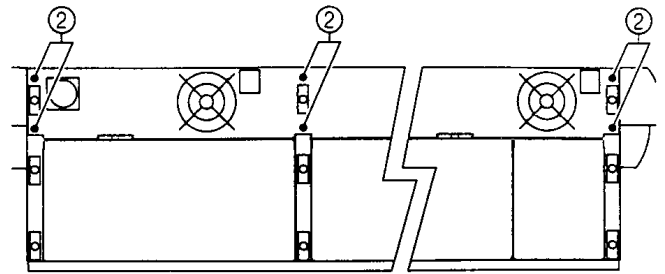

Fig.2
2. Loosen the screws ② on the rear of the meter bridge. (Fig.2)